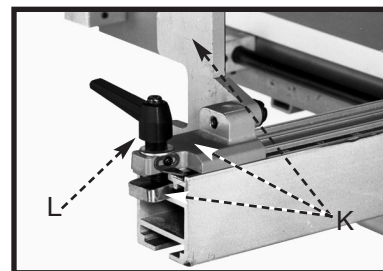

Fig. 45
20. Attach the fence stop assembly (K) Fig. 45 to the top of the fence and tighten the lock handle (L).